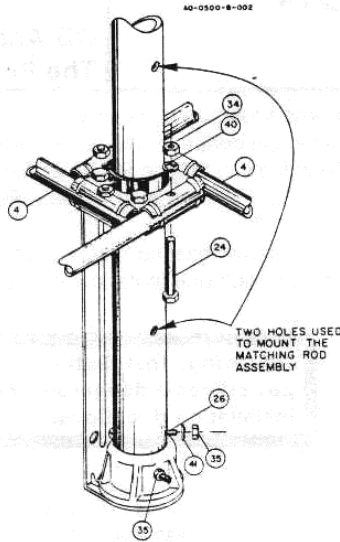
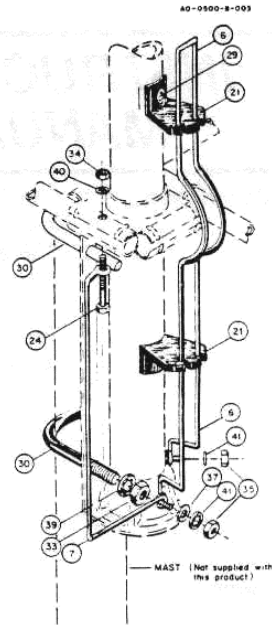

Figure 2
Figure 3
NOTE: Make certain the end of the M1 assembly (Item 13) with the two holes is down and aligned with the holes in the insulator (see Figure 2). Remember to point the two smaller holes (located 5 $\frac{3}{8}$ " and 13" from the bottom end) away from the base bracket. These will be used to attach the matching rod assembly (see Figure 3).
Fasten the M1 assembly to the insulator with the #10 x 1 $\frac{1}{4}$ " screw, see Figure 2, Item 26 and associated hardware, Items 35 and 41. Tighten SECURELY.
Referring to Figure 2, assemble the $\frac{3}{8}$ " x 55" R1 tubes (Item 4) into brackets, align the holes and fasten with $\frac{1}{4}$ " x 1 $\frac{1}{4}$ " screws, nuts and lockwashers (Items 24, 34 & 40). Do not tighten nuts.
Remove the two rod support insulators (Item 21) and the two #10 x $\frac{3}{8}$ " Type T screws (Item 29) from the parts pack and attach them to the M1 assembly as shown in Figure 3.
Attach the matching rod and beta rod exactly as shown in Figure 3.
- () Loosely assemble the $5/16$ " U-bolts on the bracket as shown in Figure 3.